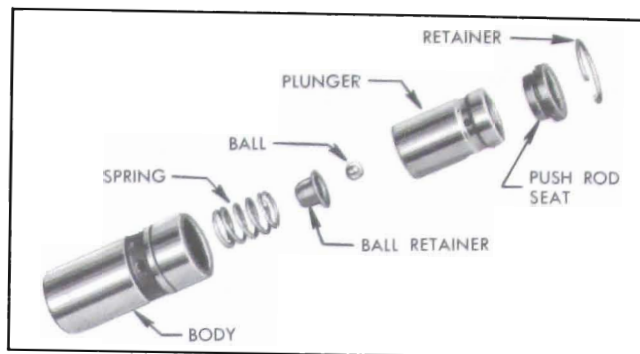

Figure 2-24—Hydraulic Valve Lifter Parts
2. Hold plunger in vertical position with feed hole up, then rinse and install the check ball, ball retainer, spring, and body over the plunger. See parts in Figure 2-24.